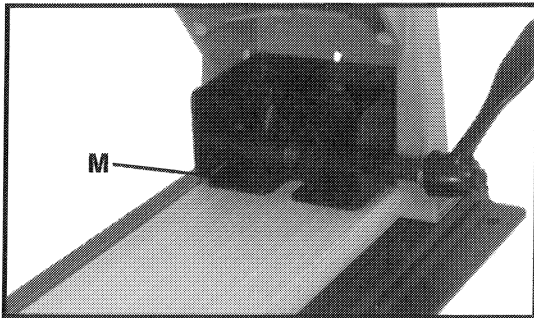

Fig. 7
3. Lift the adjustment lever to raise clamp assembly and insert a piece of scrap material (same thickness as planned work) underneath the clamp plate (M) Fig. 7. Seat the scrap material against the drill guide bushing.